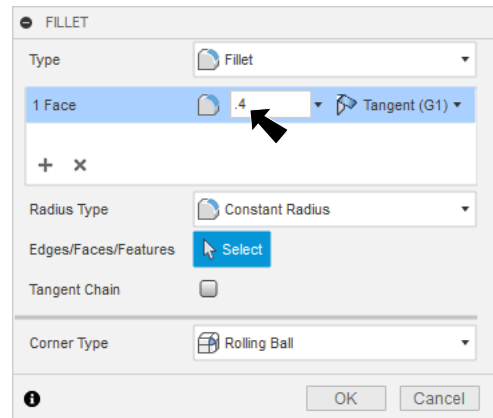

Fig. 12
Step 1. On the Solid tab **SOLID** click **Fillet**  (F) in the Modify area of toolbar.
Step 2. In the Fillet panel set, **Fig. 12**